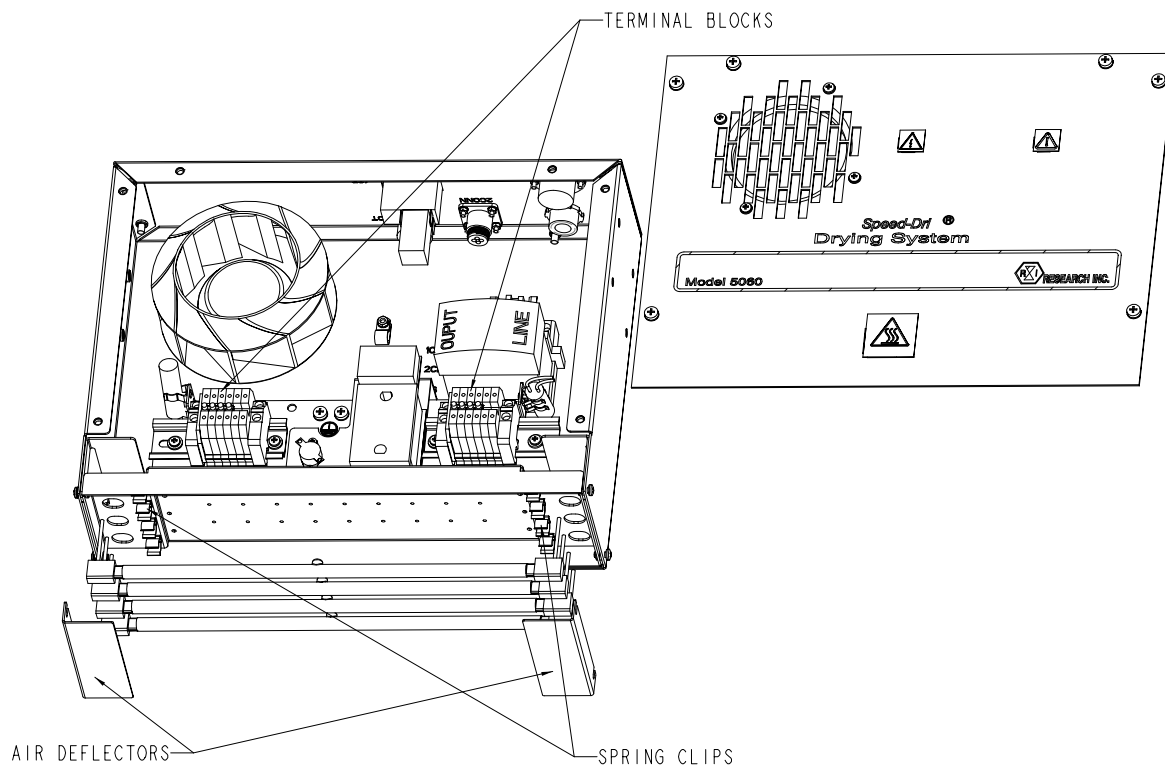

Figure 3-6. Model 5060 Spring Clip and Terminal Block locations.
3. Insert the lamp leadwires through the reflector and snap the lamp into the spring clips provided (Figure 3-6). If the lamp clips are excessively tight, gently spread the clip wider. Make sure that the lamp is held securely in the clip.